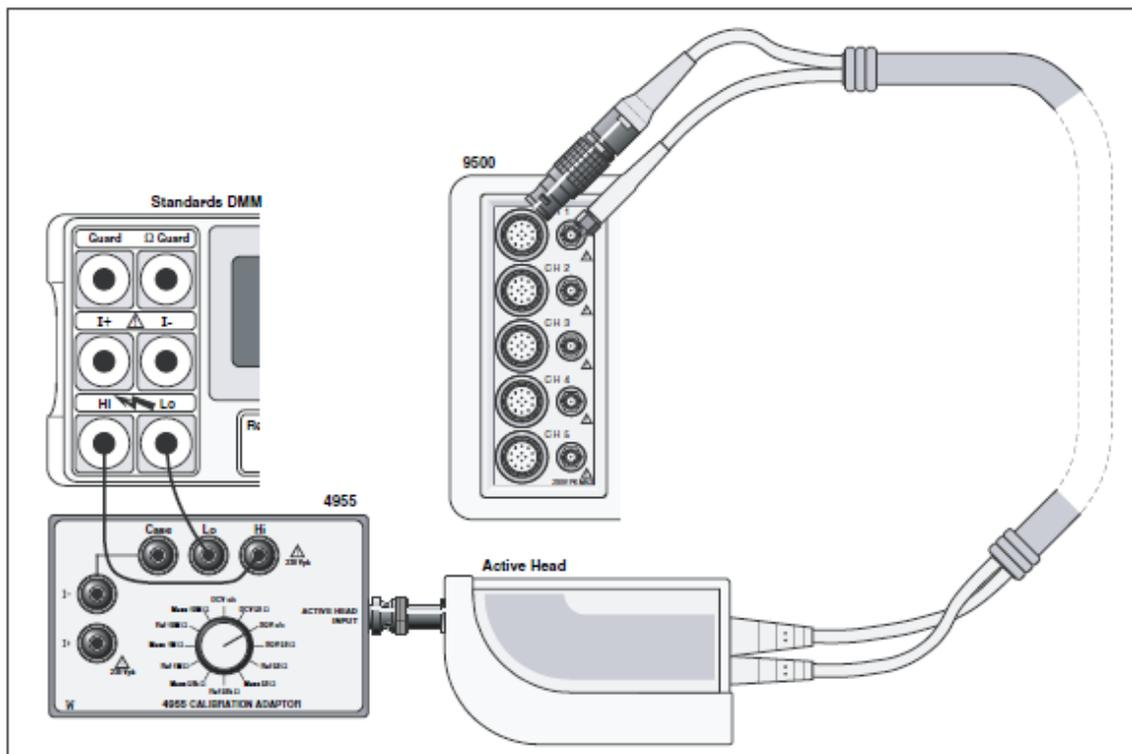

Figure 15. DC/Square; Square Waveform Calibration — Interconnections
1. Connections: Ensure that the 9500B is connected to the Standards DMM as shown in Figure 15, or via a similar BNC-4 mm adaptor, and that both instruments are powered on and warmed up.